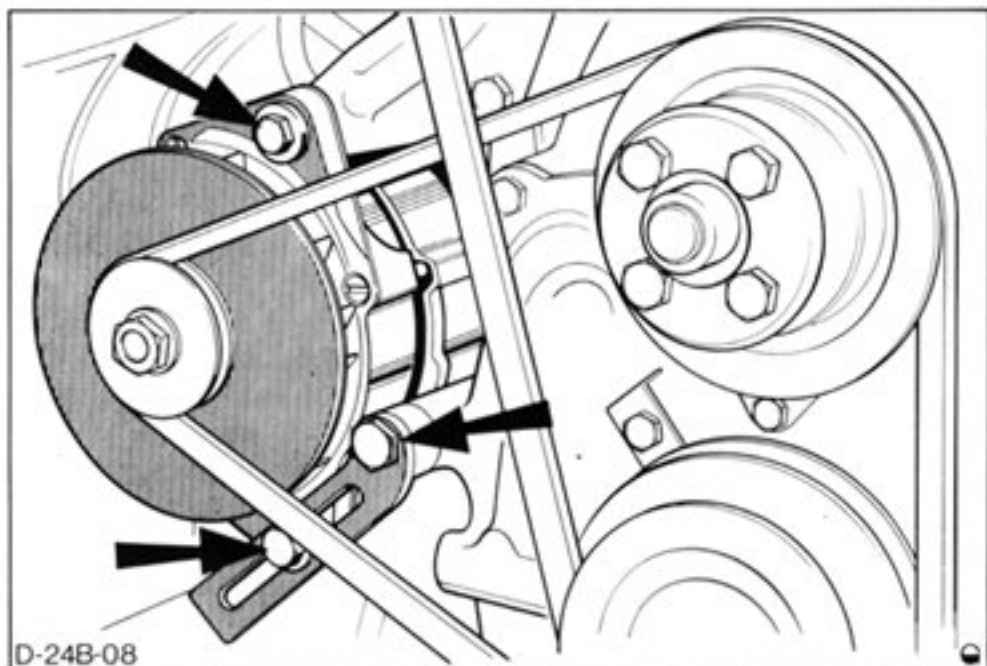

Fig.10. Alternator mounting bolts.
3. Loosen three alternator mounting bolts, Fig.10, and remove fan belt.